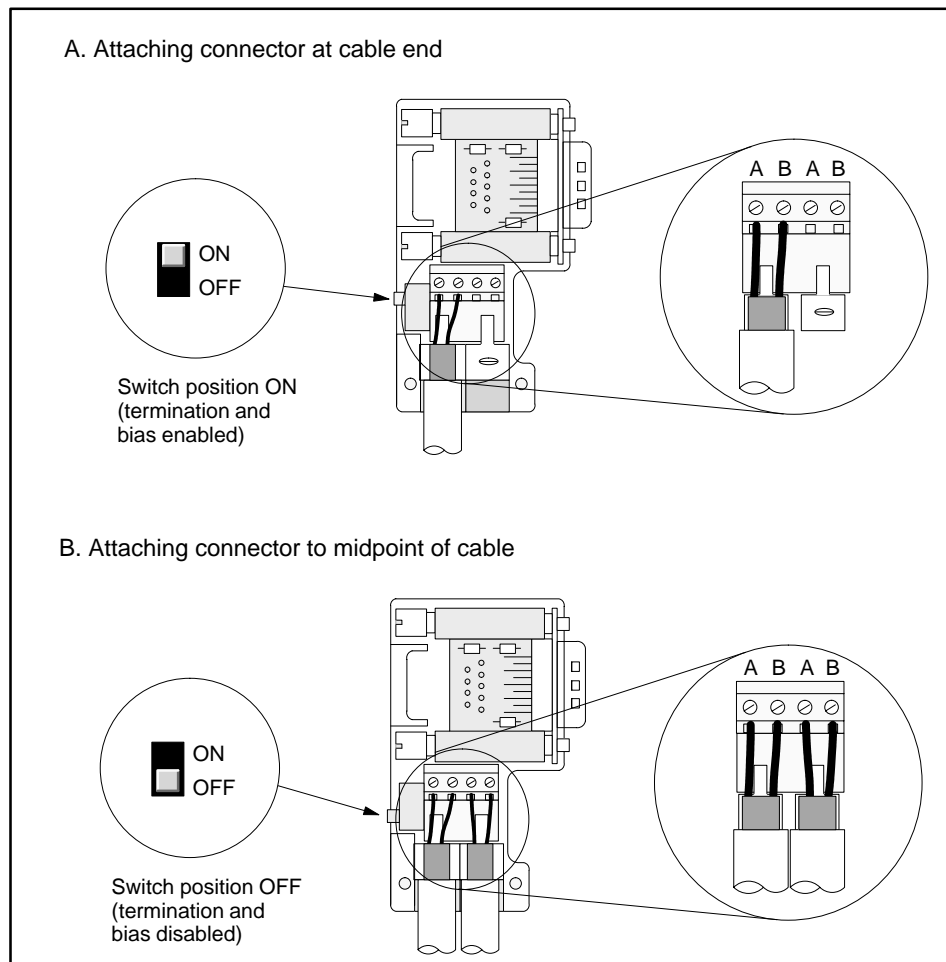

Figure 6-20 Attaching Connector and Selecting Termination
7. Set the termination switch to the correct position. See Figure 6-20.